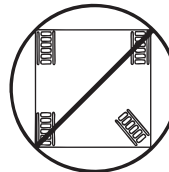

Figure 3
3. Ensure that all skates are properly aligned during use, Figure 3.